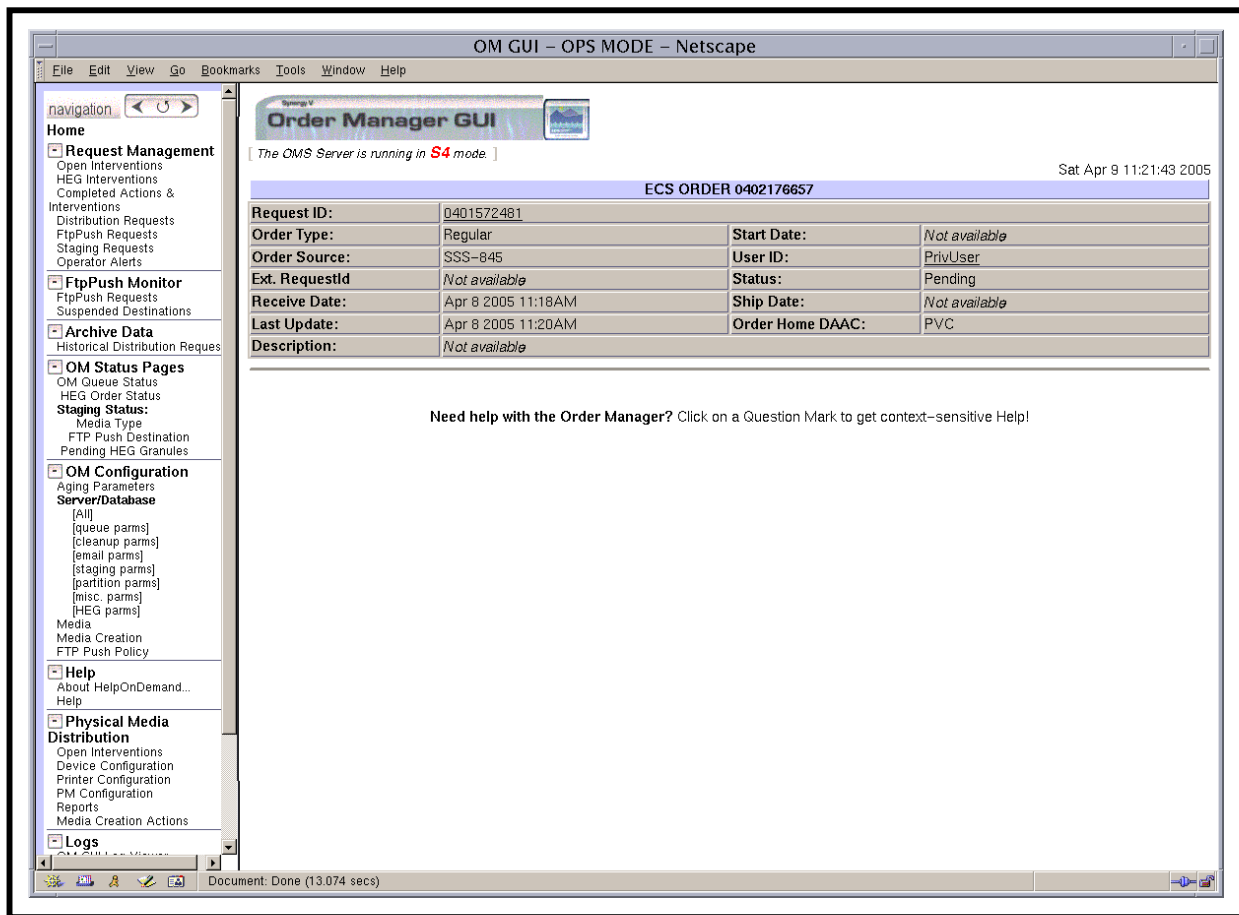

Figure 25. ECS Order Page
- The **ECS Order** page (Figure 25) displays the following types of data concerning the order: